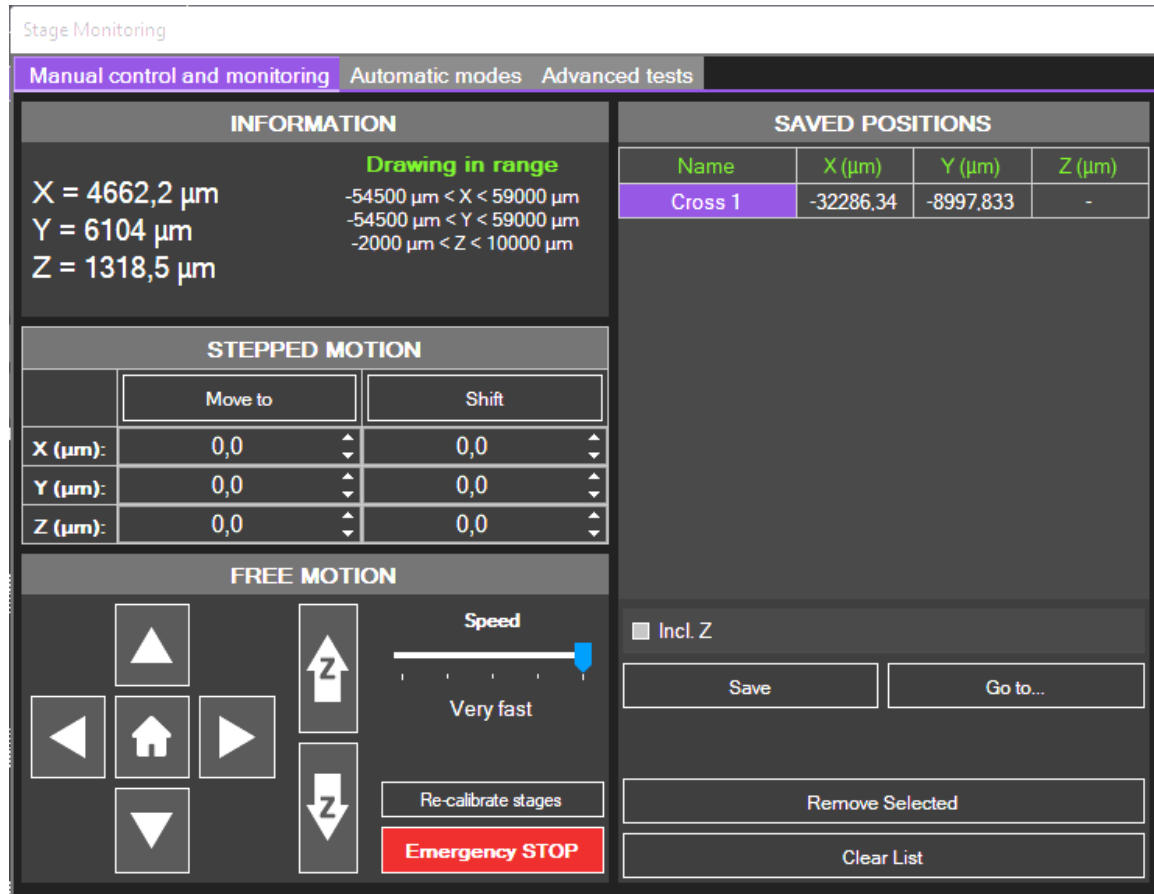

Figure 32 – XYZ stage control and monitoring interface
To open the stage control interface, go to the **Stages** menu and click on **Monitoring window....** A new window will open as shown in (Figure 32). This interface can also be launched by clicking directly on XY stage status label **XY ready (backlash enabled)** at the bottom of the main window.
- The starting coordinates correspond to the stage current position. Thus, go to the **Manual control and monitoring** tab and move the stage using the available controls (Figure 32) until the stage status switches back to green color.